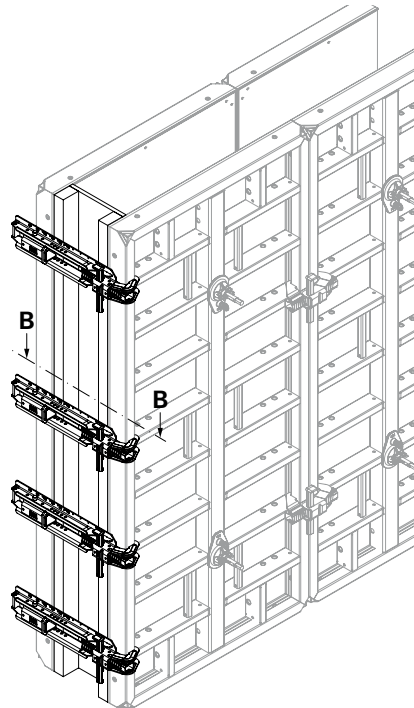

Fig. B10.03
- Perm. fresh concrete pressure 80 kN/m² (Fig. B10.03)